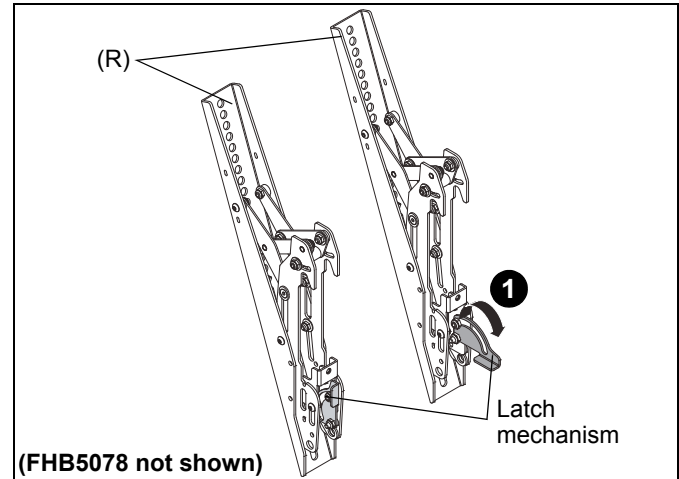

Figure 15
- Lower the latch mechanism on each interface bracket (R). (See Figure 15)
1. Ensure that the latch mechanisms on interface brackets (R) are already lowered. (See Figure 15)